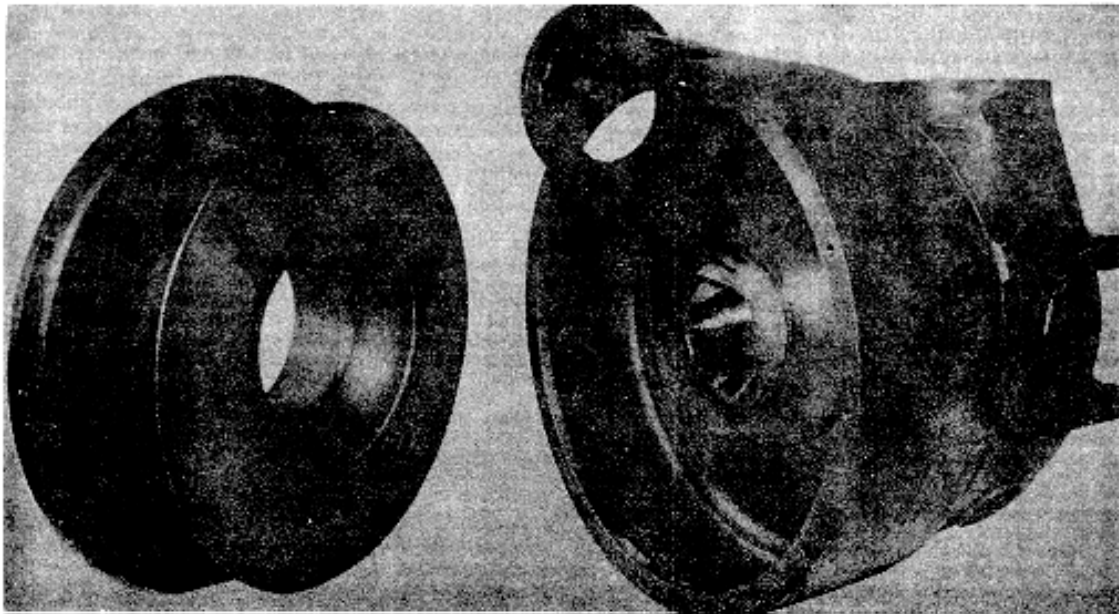

Fig. 6- Partially Dismantled View Showing Blower Inlet Removed for Cleaning.
The impeller and diffuser should be cleaned every 4,000 hours or less, depending on service conditions, to maintain optimum turbocharger performance. Remove the blower inlet cap screws (38), Fig. 9. Using these cap screws as jacking screws, break the flange connection between the blower inlet and the blower casing. With the aid of the lifting lug and an overhead lift remove the blower inlet (37) (see Fig. 6). This part must be pulled out along the rotational axis to avoid damaging the impeller shroud labyrinth seal rings. The impeller, diffuser and blower casing